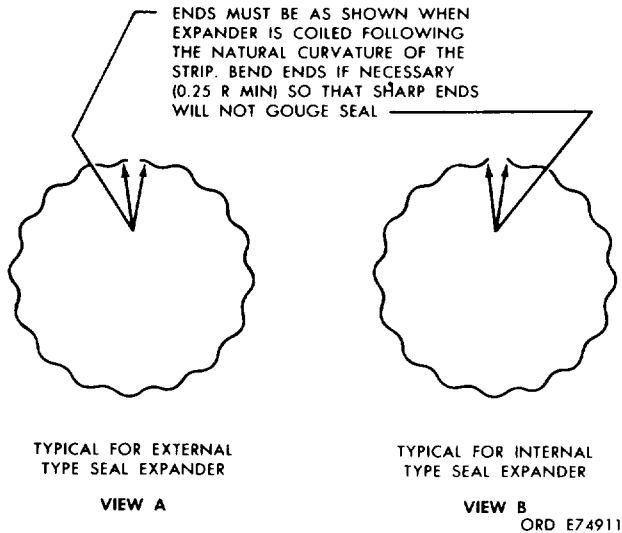

Figure 7-12. Typical expanders for Teflon Sealrings.
a. Coil the expanders as shown in figure 7-12. Inspect the ends for curvature toward the bottom of the groove (inward for external grooves (view A) outward for internal grooves (view B)).